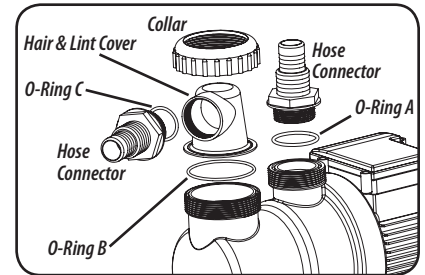

Figure 2
6. Insert O-Ring C (1½" dia) inside the outward facing opening of the transparent hair & lint strainer cover. Then attach the hose connector to the strainer cover. See Figure 2.